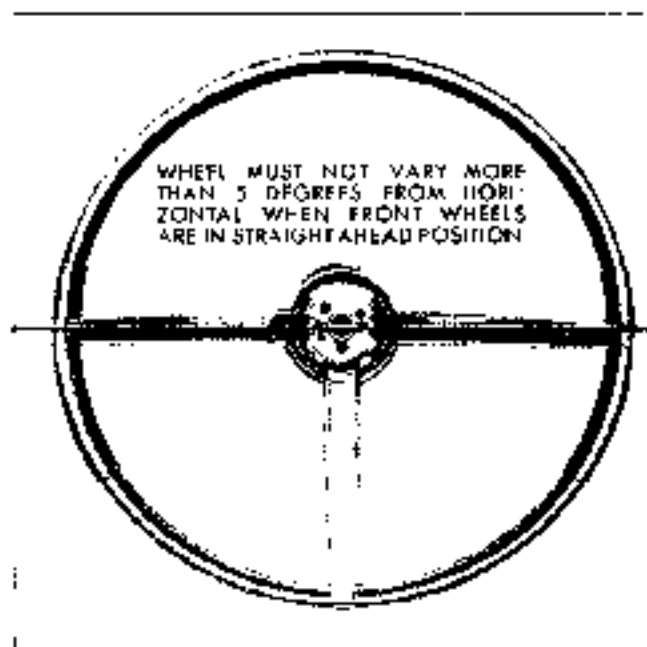

Fig. 9-2 Locating Steering Wheel Position
5. To replace, reverse above procedure, making sure steering wheel is in straight ahead position (Fig. 9-2). Tighten steering wheel nut to 35 lb. ft. torque and stake. To prevent damage to turn signal switch, be sure switch is in neutral position and hazard flasher knob in off position prior to steering wheel installation.